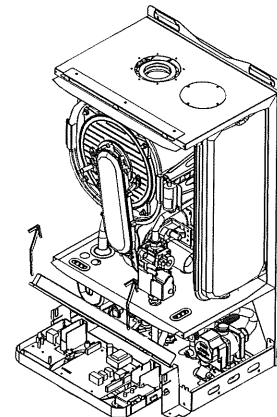

Fig. 6
- Unscrew the four fixing screws (see fig. 6) and remove the panel back piece.